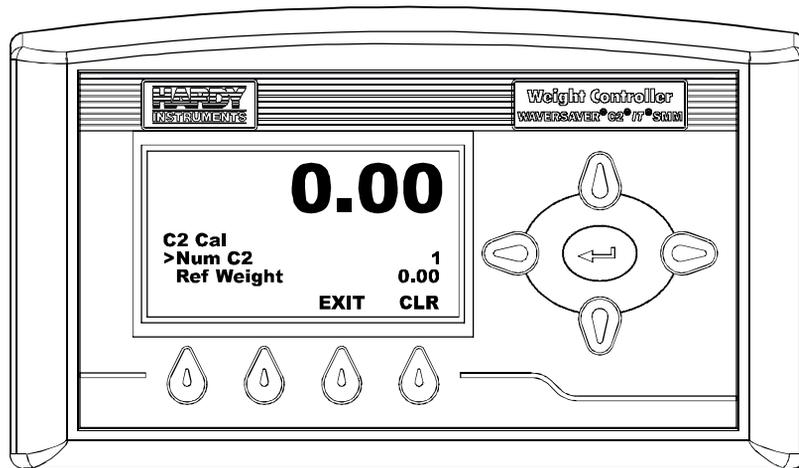

FIG. 306 C2 CALIBRATION MENU/SELECTING NUMBER OF C2 LOAD CELLS
Step 2. Press the Enter button. The C2 Calibration Menu appears with the cursor in front of Num C2. (See Fig. 306)